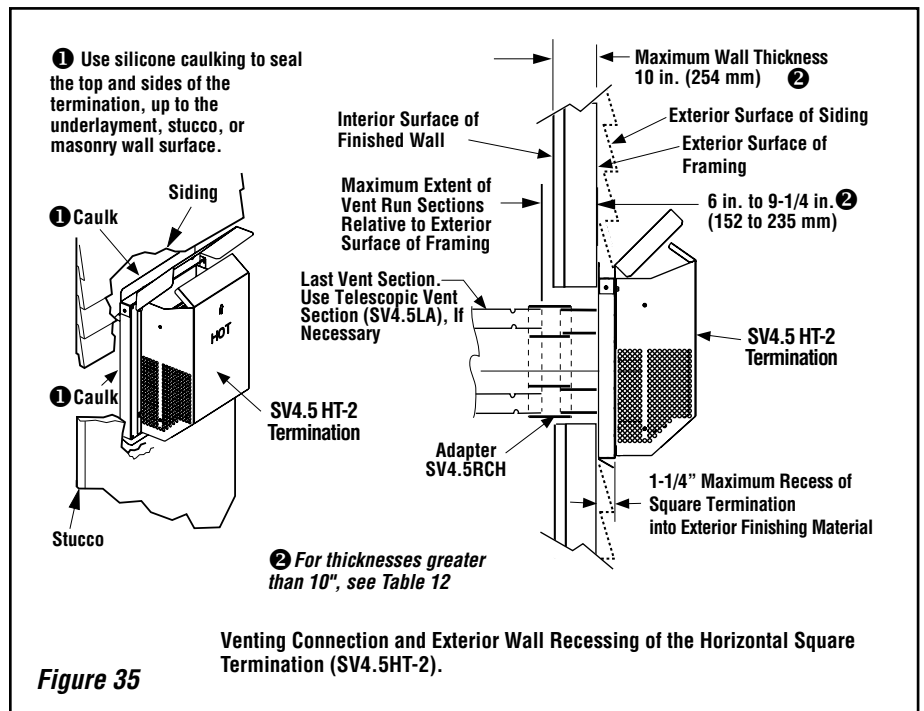

Figure 35
J. Assemble vent run to exterior wall - If not previously measured, locate the center of the vent at the exterior wall. Prepare an opening as described in **Step B**. Assemble the vent system to point where the terminus of the last section is located relative to the exterior surface to which the termination is to be attached as shown in **Figure 35 and Table 12 on Pages 18 & 19**.
If the terminus of the last section is not within this distance, use the **telescopic vent section SV4.5LA**, as the last vent section. For wall thicknesses greater than that shown in **Figure 35**, refer to **Table 12 on Page 19**. This Table lists the additional venting components needed (in addition to the termination and adapter) for a particular range of wall thicknesses.
Install the square termination - For the last step, from outside the exterior wall, slide the collars of the termination onto the adapter (the outer inside the outer and the inner outside the inner) until the termination seats against the exterior wall surface to which it will be attached. Orient the housing of the termination with the arrow pointed upwards. Secure the termination to the exterior wall. **The horizontal termination must not be recessed into the exterior wall or siding** by more than the 1-1/4" (32 mm) as shown in **Figure 35**.
Table 12 Note: See Figure 35 showing wall thickness range when using SV4.5HT-2 termination kit only.